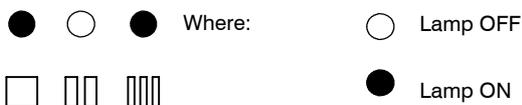

Fig. 24
- 12 Press the reset button D repeatedly (4 times) until the lamps F give the indication as in Fig. 24 (ignition pressure adjustment mode).